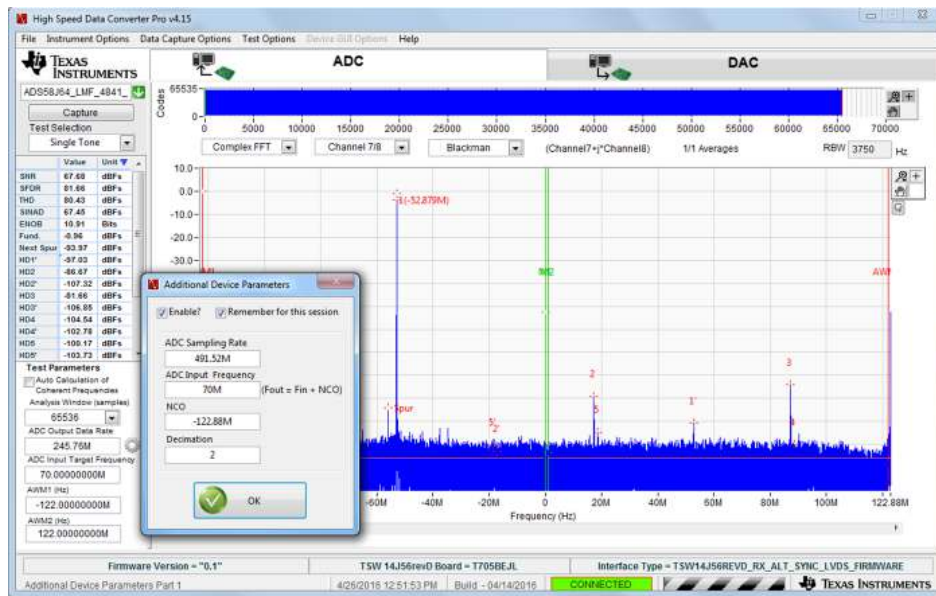

Figure 5. Data Capture Results from Quick Start Procedure
14. The results from the captured data of Channel 1 should resemble Figure 5, and the performance should be similar to Table 1. If this result was not achieved, then see Section 2.4 of this document.